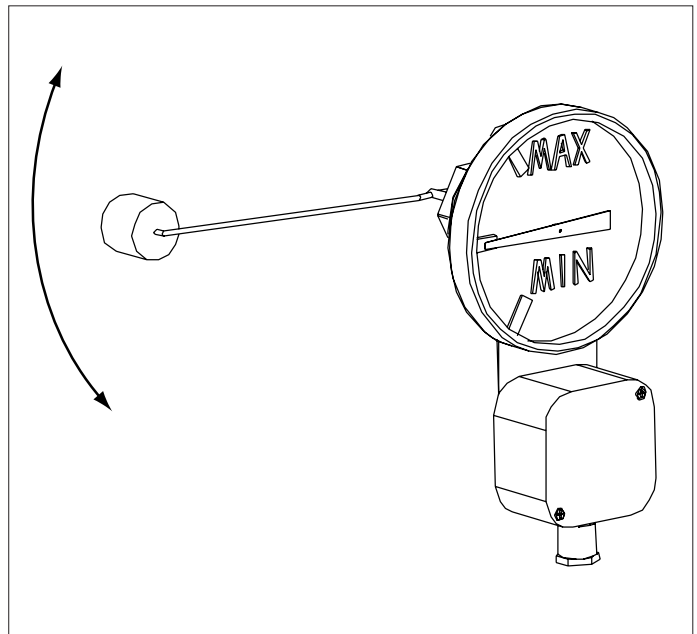

Fig. 21.
4. Check the function by carefully moving the float up and down according to Fig. 21.